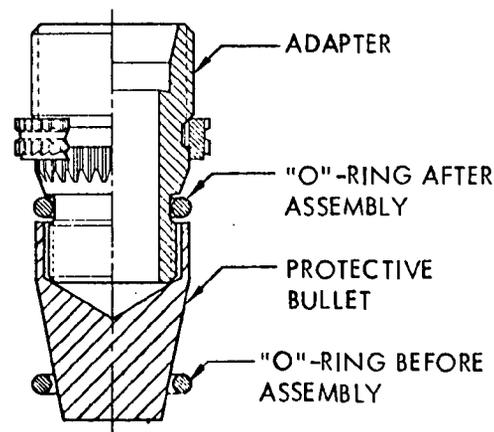

FIGURE 2
4.1.1 Place the protector bullet (per Table II) over the small thread of the fitting. Submerge the adapter, bullet and "O"-Ring in the fluid to be used in the working system, or a lubricant compatible with the system fluid and all components. Slide the "O"-Ring over the bullet and onto the fitting. Be sure that the "O"-Ring is not twisted and is properly seated in the groove of the fitting. See Figure 2.